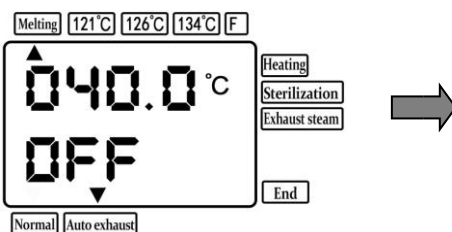
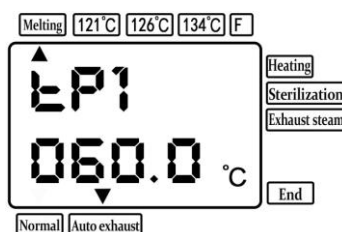

Fig. 13
Fig. 14
③ Melting temperature setting: Press the "Temperature Selection" key to the melting state (**Figure 13**), then press the "Setting" key to set the melting temperature. You can press the left and right keys to position the cursor, then press plus, or minus key to set the desired melting temperature (**Fig.14**). After setting, press the "Setting" key to save the modification.